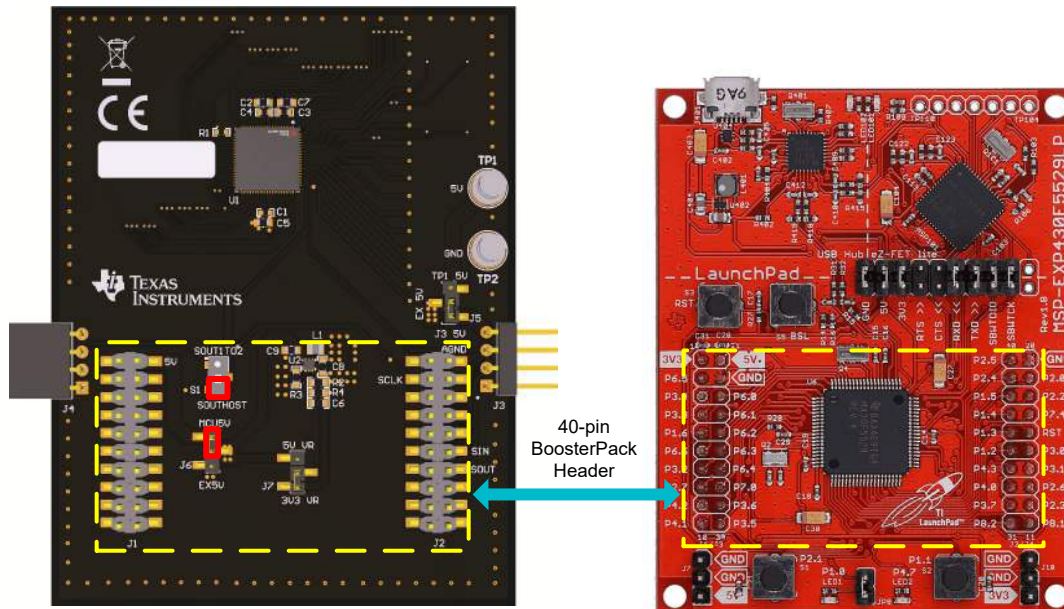

Figure 3-2. Single LP5891EVM Connected with the MSP430F5529 LaunchPad
- b. Put the J6 jumper on "MCU5V" and the middle, and set the switch S1 towards "SOUTHST" , which are marked with red boxes in Figure 3-2.
- c. Connect BoosterPack connectors (J1, J2) on the LP5891EVM with the MSP430F5529 LaunchPad, the connection method is shown in Figure 3-2.